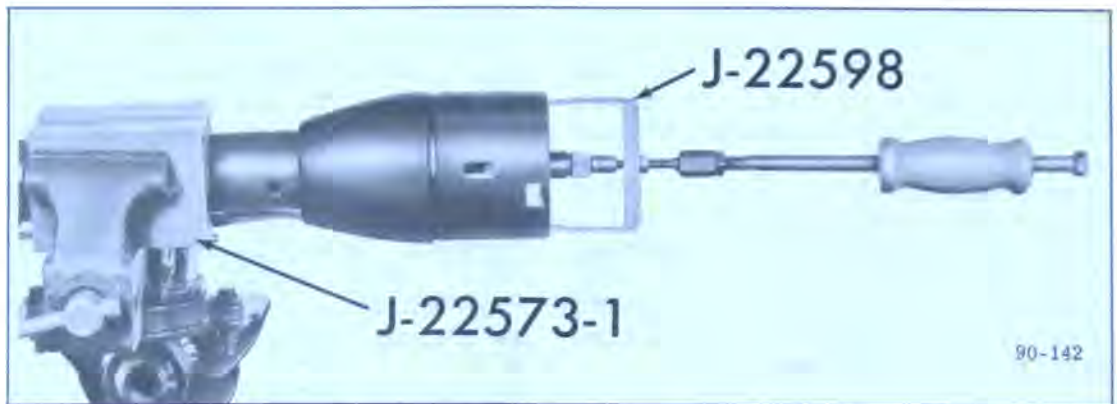

Figure 90-96 Cover Removal
3. Mount column in a vise using special tool J-22573-1 (see Figure 90-96).
5. Push in on hazard warning switch and remove cover using special tool J-22598 (see Figure 90-96).